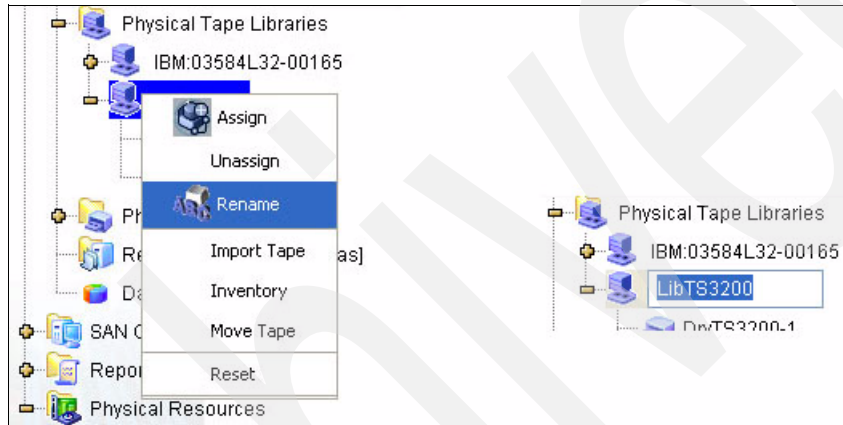

Figure 6-73 Discover new devices: Rename physical library and tape drives
11. The physical library and drive names generated during the **Rescan** can be renamed to conform with standard naming conventions. To rename the library and drives, right-click each object and specify the new name as shown in Figure 6-73.